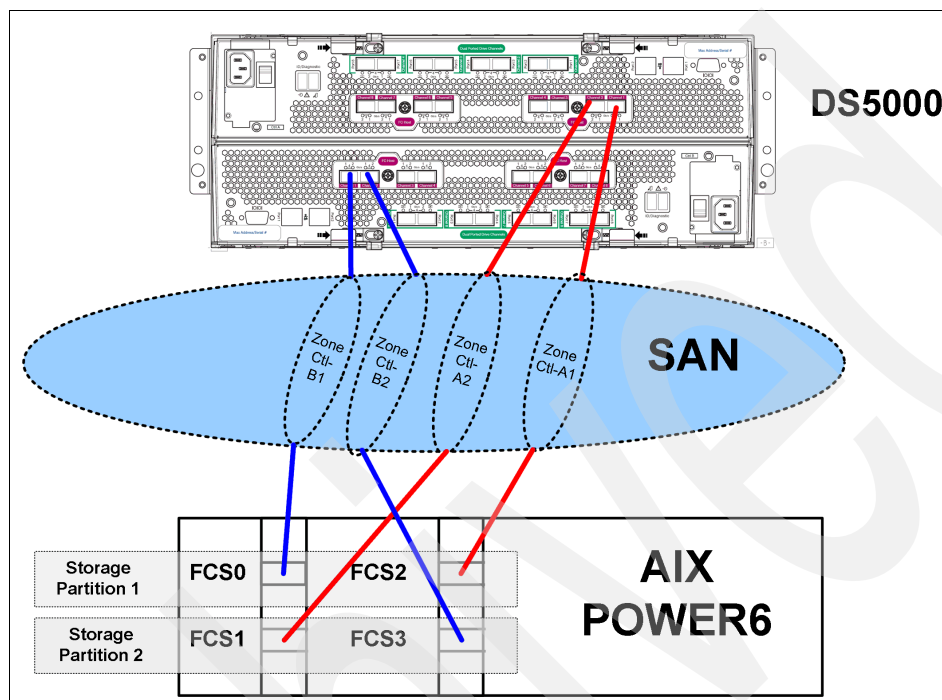

Figure 12-11 Four HBAs, two storage partitions
A configuration with four HBAs and four host ports on DS5000, two on each DS5000 controller is supported with appropriate zoning as shown in Figure 12-11. It is very important to define two hosts on DS5000 mapping, each defined host residing in a separate host group, which results in a logical drive being allocated to either one Host Group or the other so is only accessed by one set of HBAs.
In Figure 12-11, dual HBAs have been used so as to emphasize that if there is adapter failure, connectivity is not lost to a host group. HBA **fcs0** and **fcs2** are in one DS5000 Host Group with **fcs1** and **fcs3** in the other. If **fcs0** and **fcs1** were in the same Host Group, then the physical adapter is a single point of failure and connectivity is lost to that Host Group if the adapter failed.
- ▶ More than two HBAs on AIX host *without* the use of multiple Host Groups defined on DS5000 (see Figure 12-11 for an example) are not supported.